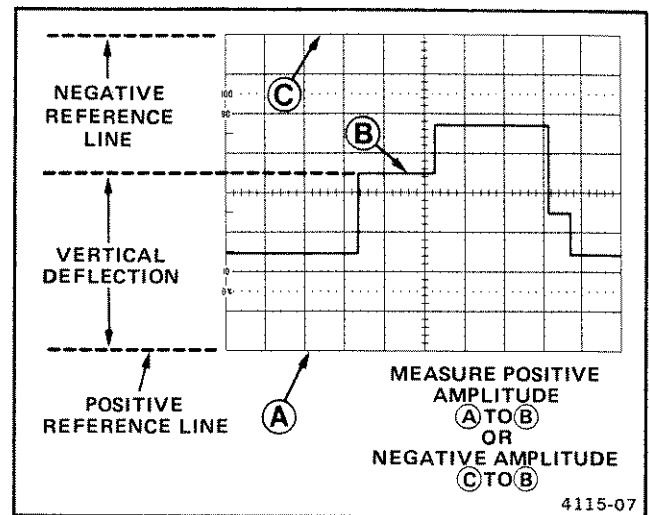

Figure 12. Instantaneous voltage measurement.
11. Measure the divisions of vertical deflection between the reference line and the desired point on the waveform at which the dc level is to be determined (see Figure 12).
EXAMPLE: The measured vertical deflection from the reference line is 4.6 divisions (see Figure 12), the waveform is above the reference line, the VOLTS/DIV switch is set to 2, a 10X attenuator probe is being used, and the A TRIGGER SLOPE switch is set to $\nearrow$ (plus).